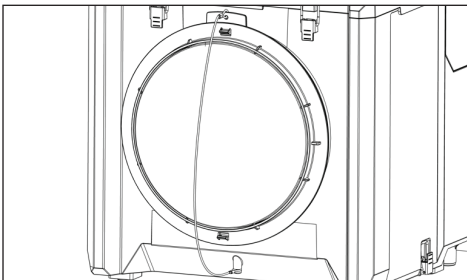

Fig. 7: Air inlet cover (closing position)
- ▶ Close the air inlet cover (Fig. 7) prior to transport. This prevents dust from escaping from the device into the environment.